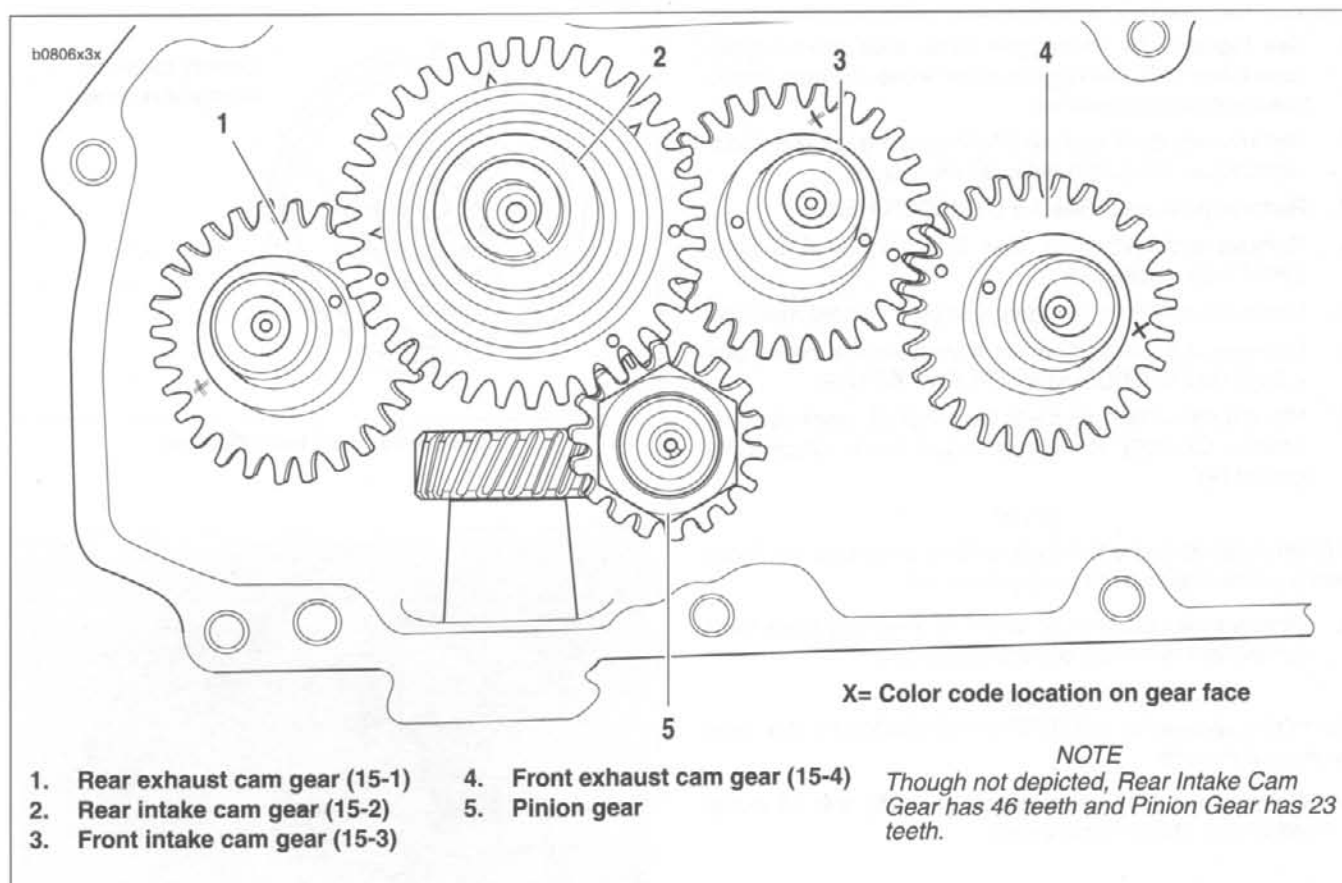

Figure 3-82. Cam and Pinion Gear Color Code Location and Timing Mark Indexing
Cam and pinion gears are individually selected for each specific gear cover through sophisticated computer-aided measuring techniques in a controlled environment. Each gear is assigned an individual color code based on its diameter (measured with gauge pins). When cam and/or pinion gears are replaced, always use the same color code as found on gears being replaced to ensure that the gear operation remains as quiet as possible. For location of cam and pinion gear color codes, see Figure 3-82.
3. Liberally apply engine oil to bushings, shafts, and gears. Install all cam gears into bushings of right crankcase half, properly aligning timing marks of cam gears and pinion gear. See Figure 3-82.